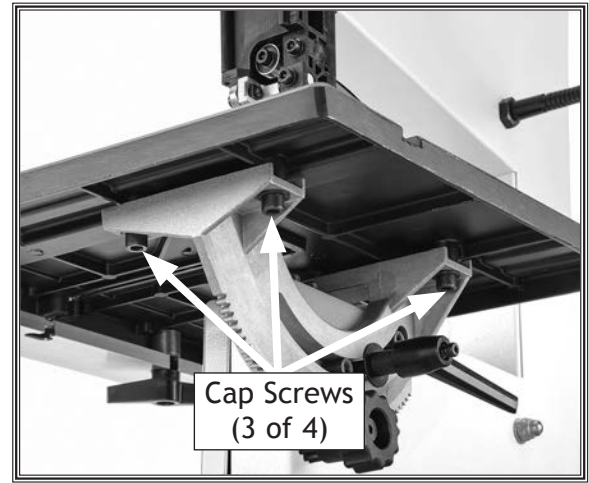

Figure 32. Location of trunnion bracket flange bolts.
5. Loosen the four cap screws securing table to trunnion brackets (see **Figure 32**).